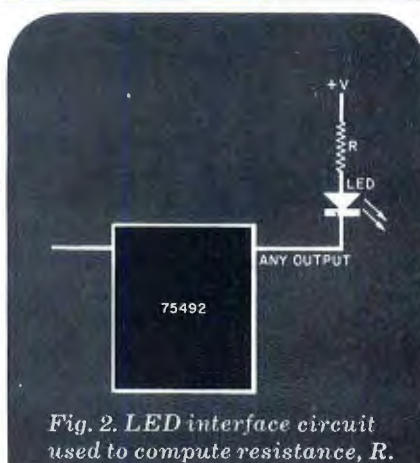

Fig. 2. LED interface circuit used to compute resistance, R.
**LED Interface.** Shown in Fig. 2 is a typical LED interface circuit. To compute the values of the dropping resistor in the external circuit, use Ohm's Law:  $R = E/I$ , where R is the dropping resistor's value, E is the supply voltage, and I is the current through the LED. Remember to take into account the one-diode voltage drop of the inverter in the IC and the drop across the LED.